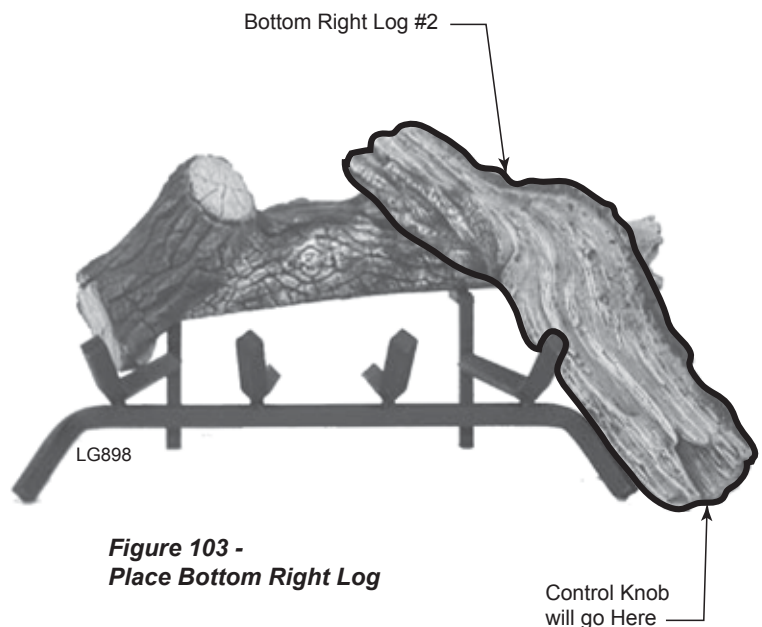

**Figure 103 -
3. Place Bottom Right Log #2 along outside of grate. Rest end on Rear Log #1. Control knob will stick through bottom notch of log. *Figure 103*